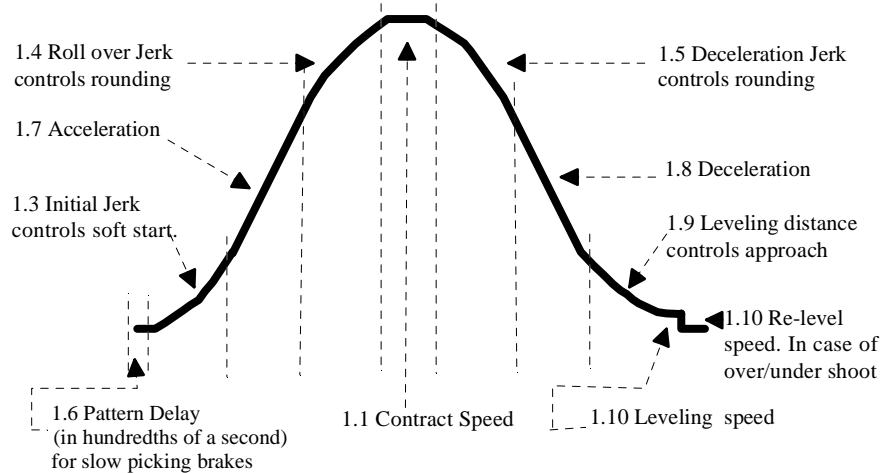

FIGURE I.4.1
The speed profile drawing, Figure I.4.1 below, provides information, at a glance, of the parameters involved for the adjustment of the elevator ride. Please use as reference.
I.4.2. Make a series of test runs: up one floor, then down one floor; then a multiple floor run up, then down. At every run adjust, as necessary, any of the speed curve parameters depicted on figure I.4.1 below. Refer to SDI's manual drawing "SDI SUBMENU 1", at end of SDI manual, for quick reference about "navigating" through program variables, submenu 1. If car vibrates, check encoder mounting and wiring, if correct, refer to section 8 of the drive manual.